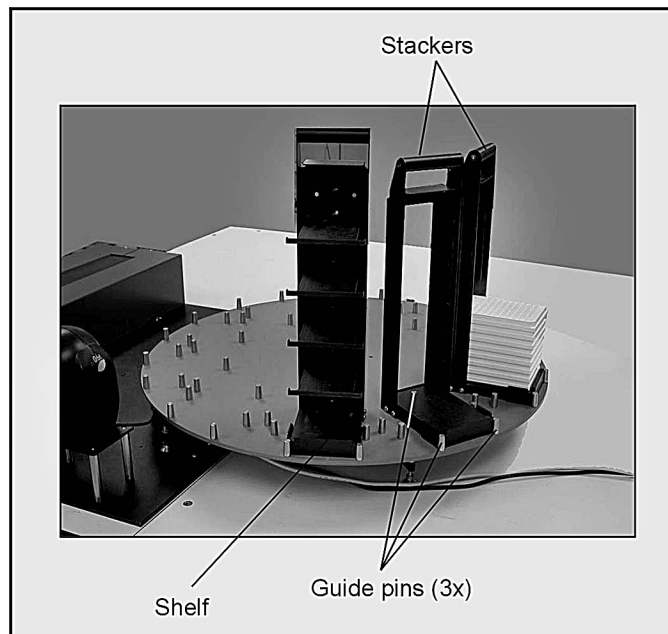

Figure 21: Portrait stackers and shelf
2. Rest the stacker or shelf on the platter (figures 21).